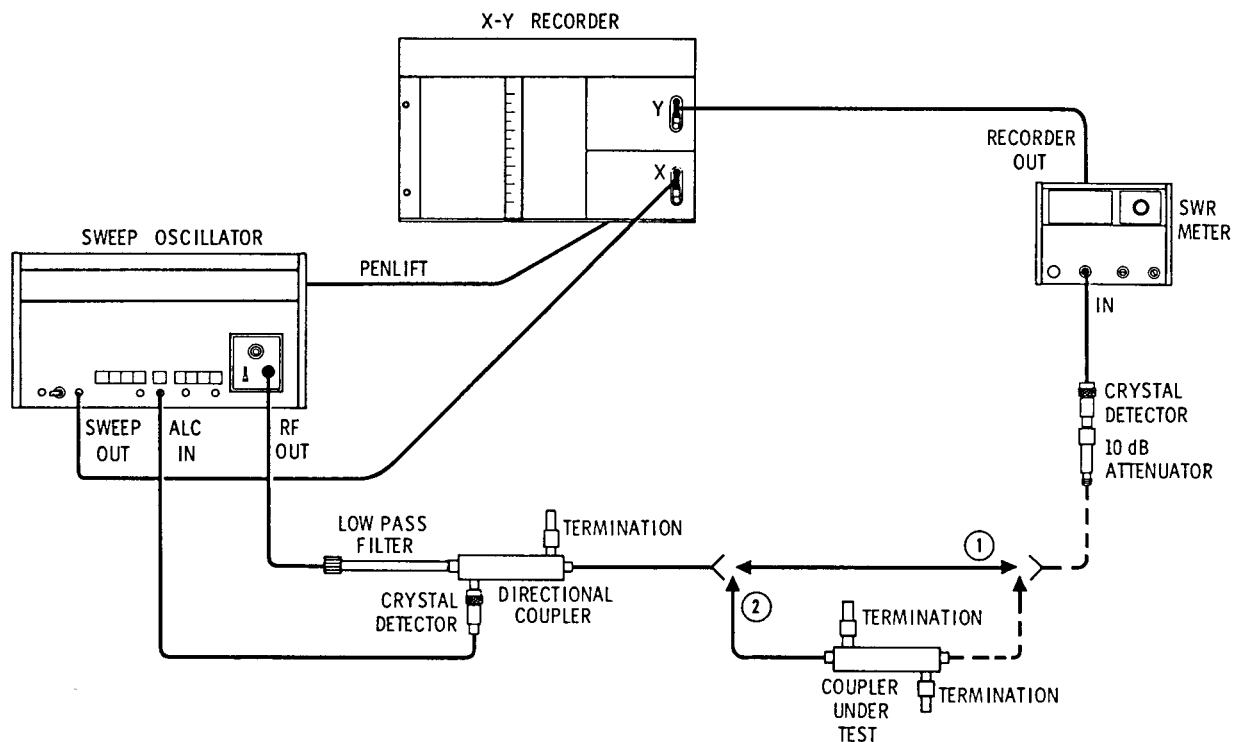

Figure 13 Insertion Loss Test Setup
To test a 775D use another good 775D as the directional coupler in Figure 13.
Description Refer to Figure 13 for test setup and Table 2 for test equipment.
1. Connect the equipment as at (1) in Figure 13.
- a. Connect the coupler under test as shown at (2) in Figure 13